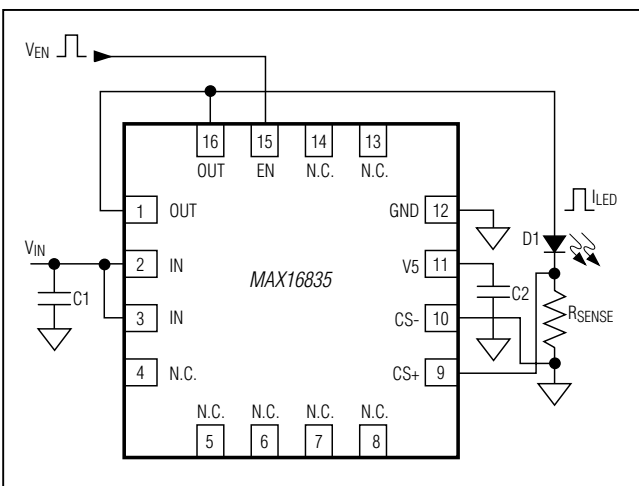

Figure 1. Pulse Application with V_{IN} at a Constant Voltage
The MAX16835 provides pulsed or chopped current dimming. Generally, HB LEDs are binned to match at their full-rated current; however, LEDs from the same bin exhibit poor matching at currents other than full-rated current. To achieve uniformity, HB LED manufacturers recommend PWM pulsing of the LED current at their full-rated value. There are two methods for producing a PWM output. One method is by pulsing the enable input (EN) while having a constant voltage at IN. The other method is to connect EN to IN and pulse both EN and IN. Both methods generate a regulated-amplitude PWM current (variable duty cycle) that can provide control over the LED brightness (see Figures 1 and 2).